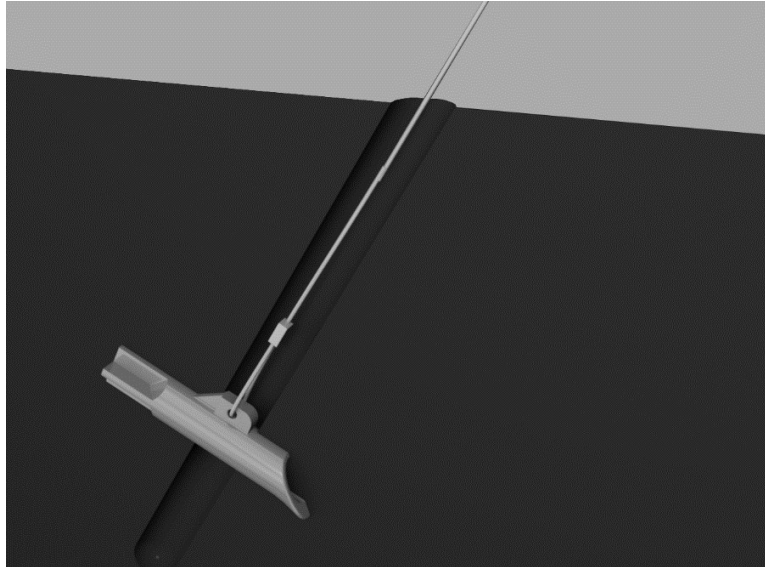

FIGURE 7-30. UTDUK duckbill in load-lock position
2. Attach a high-lift jack to the loop and jack the anchor up about 15 cm (6 in) to rotate the anchor into the load-lock position (FIGURE 7-30 (p. 36)).